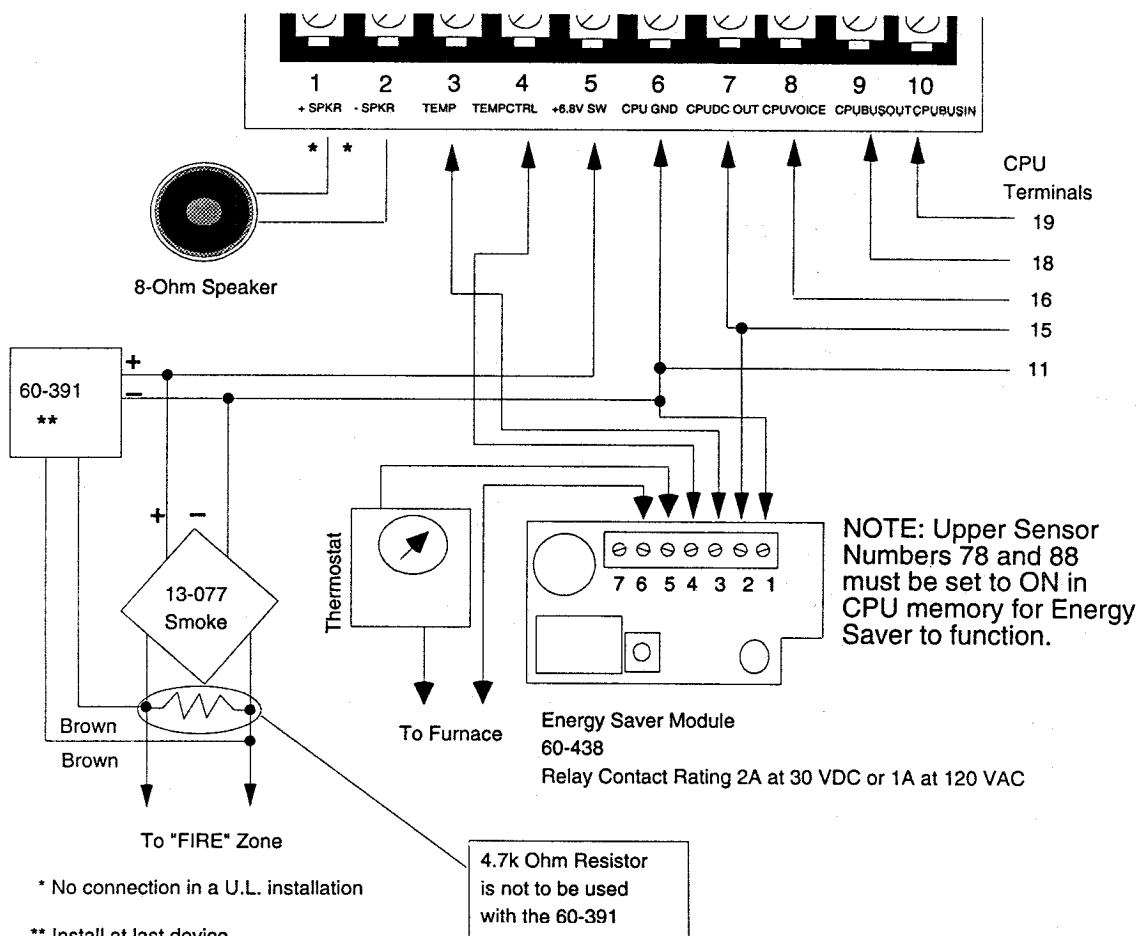

Figure 3.18. Feature Expansion Module Wiring Diagram
1. Make sure CPU power is off by turning off CPU switch, unplugging the power transformer, and disconnecting the backup battery (see Figure 3.18).